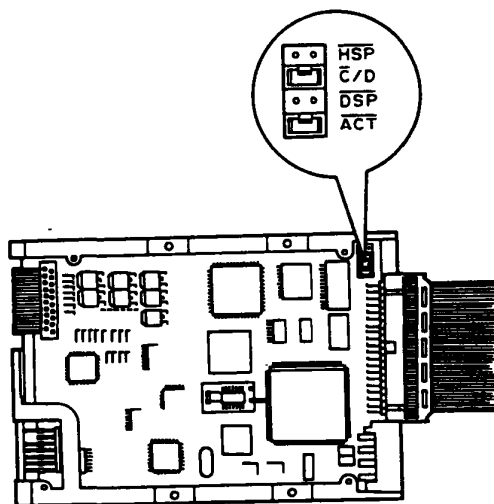

Figure 2-6 HDD jumper straps
2. Check if the jumper straps are set correctly as shown in Figure 2-6 and described in Table 2-7.